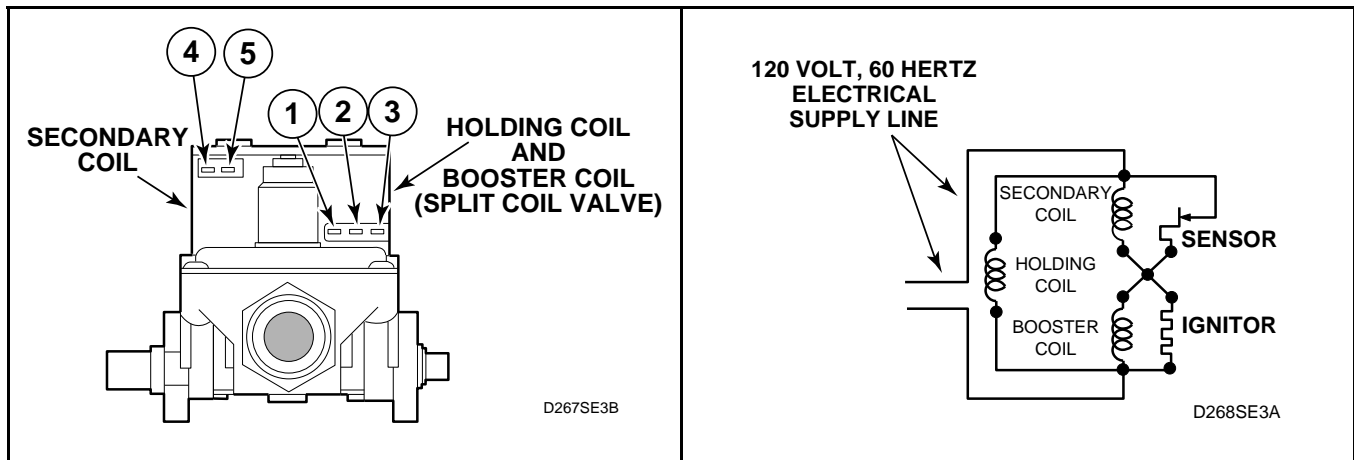

Figure 8
(Gas Models – Refer to *Figure 8*.)
- a. While supporting the access panel, remove two screws from bottom edge of access panel. Refer to *Figure 8*.
- f. Set test meter to read AC voltage and apply meter probes into terminals on the dryer harness plug that would correspond to terminals "1" and "2" on the coil. *Figure 8*. Meter should register line voltage in all Fabric settings, except NO HEAT/AIR FLUFF which should read "zero" VAC.
- a. While supporting the access panel, remove two screws from bottom edge of front access panel. Refer to *Figure 8*.